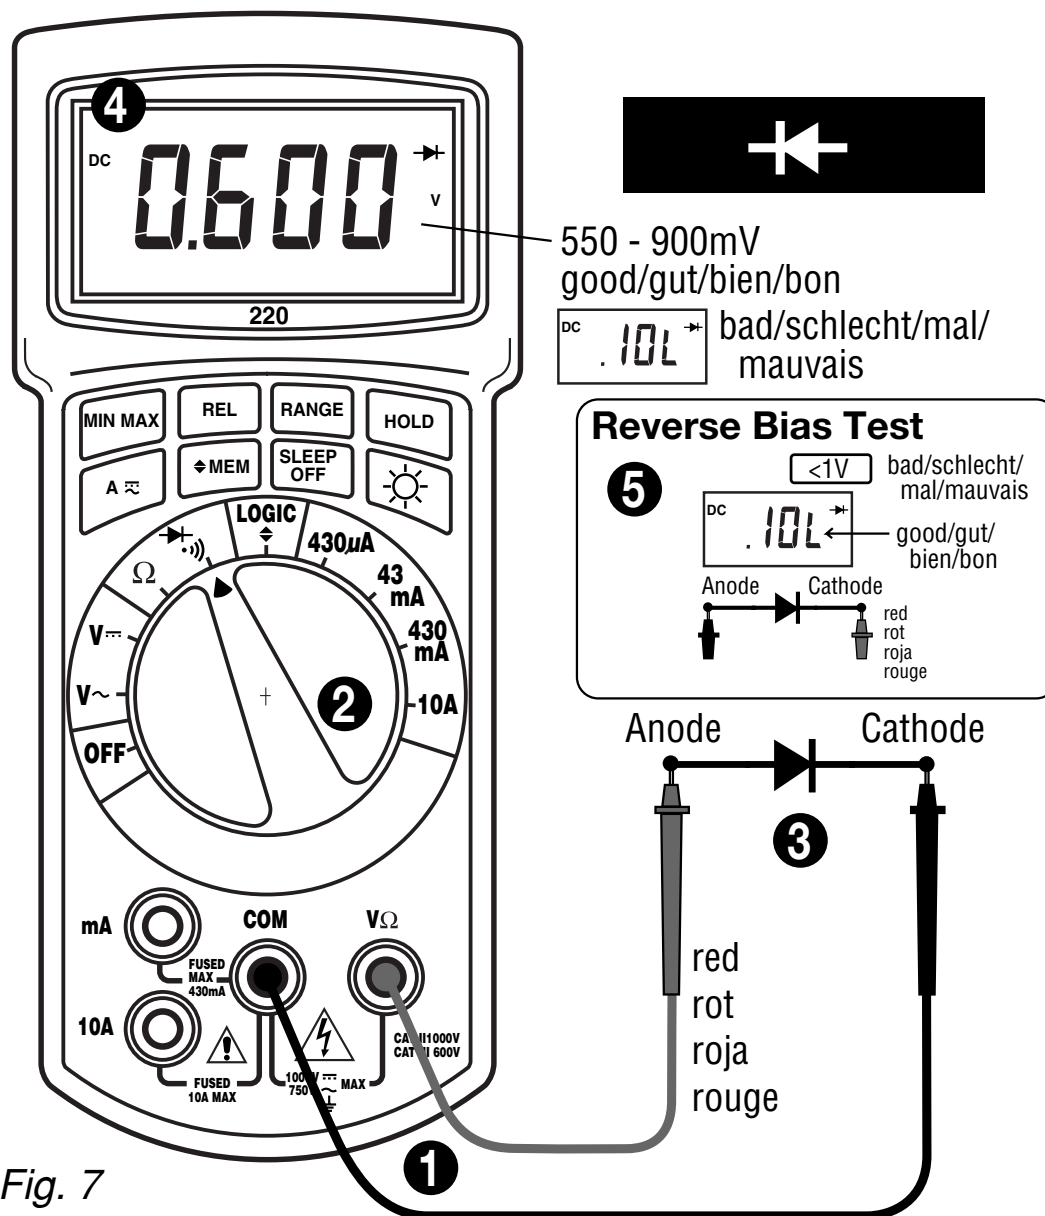

Fig. 7
DIODE AND CONTINUITY TEST (See Fig. 7)
test leads as shown in figure 7. ❷ Set the Function/range switch to $\rightarrow \vdash \vdash$. ❸ Apply probe tip of red lead to the anode and of black lead to the cathode of the diode. ❹ The meter's display indicates the forward voltage drop (approx. 0.6V for silicon diode or 0.4V for germanium diode). An open diode is indicated by "I OL". ❺ Reverse test lead connections to the diode to perform a reverse bias test. "I OL" indicates a good diode. **Notes:** "I OL" for both reverse and forward bias tests indicates an open diode. A low voltage reading for both bias tests indicates a shorted diode. If the diode is shunted by a resistor of 1000 ohms or less, it must be removed from the circuit before taking the measurement. Bipolar transistor junctions may be tested in the same manner described above as emitter-base and base-collector junctions are diode junctions.
D • Dioden- und Transistortest (siehe Fig. 7)
E • Comprobación de diodos y transistores (vea Fig. 7)
F • Test de Diodes et de Transistors (voir Fig. 7)